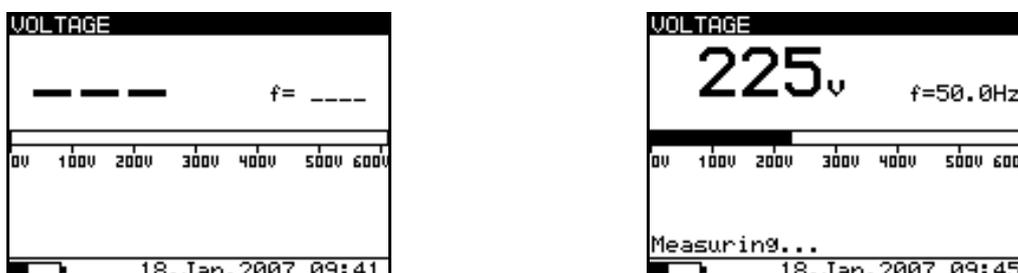

Fig. 9. Voltage function display states
Selecting this function displays the following states (initial state and state with results after completion of the measurement, see the **Fig. 9**).
- The result (see the right figure in the **Fig. 9**) can optionally be saved by pressing the **MEM** key twice, see chapter 6.1 Store, Recall and Clear Operation.